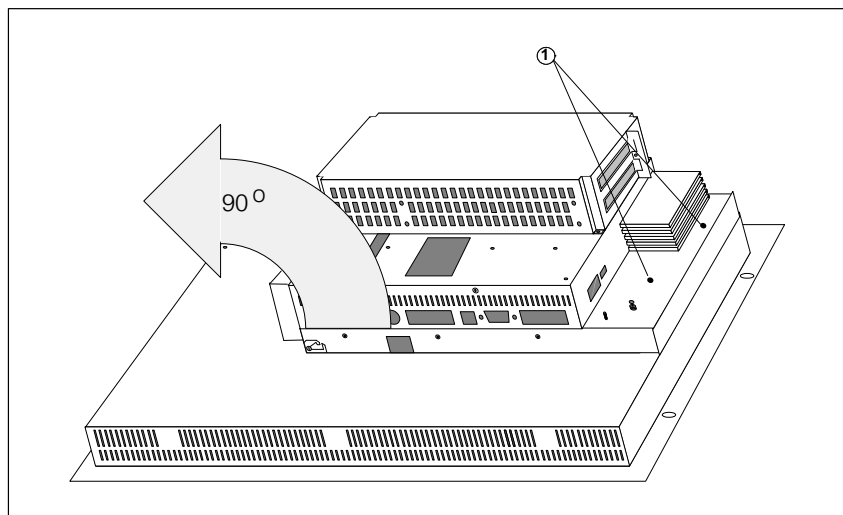

Figure 6-8 Releasing and folding out the PC box
1. Unscrew the two screws marked in Figure 6-8 with the number ①.